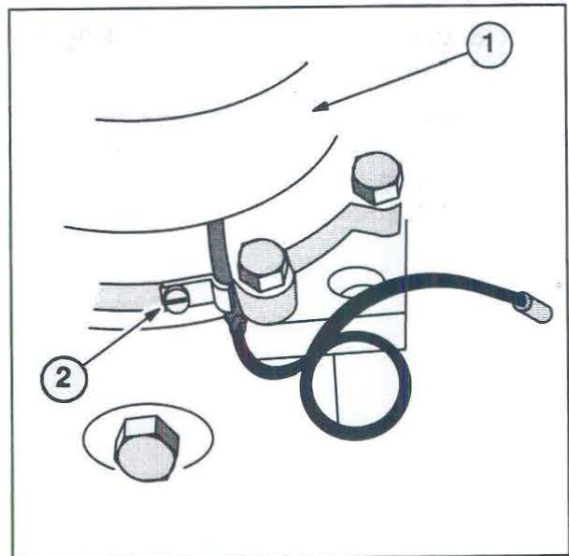

FIGURE 9-60
9. Loosen the cable clip on the compressor housing, Figure 9-60.